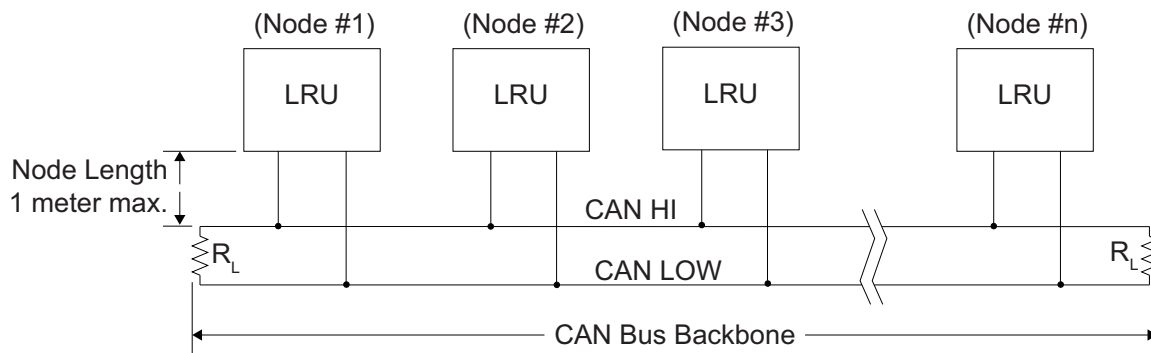

Figure 2-3. CAN Bus Configuration
The CAN (controller area network) bus (Figure 2-3) is an interface format used to establish communication between several LRUs in the G3X system. Each end of the CAN Bus “backbone” must be terminated by a 120 Ω resistor. Each node length (distance from CAN bus backbone to each LRU) must be 1 meter or less in length (keeping the node lengths as short as practicable is recommended). There is no minimum node length.
4. If a GDU 37X and/or GSU 73 unit (that was used as a CAN bus termination) is removed, the CAN bus will be unusable until the CAN bus is properly terminated at both ends of the 'backbone' (Figure 2-3).